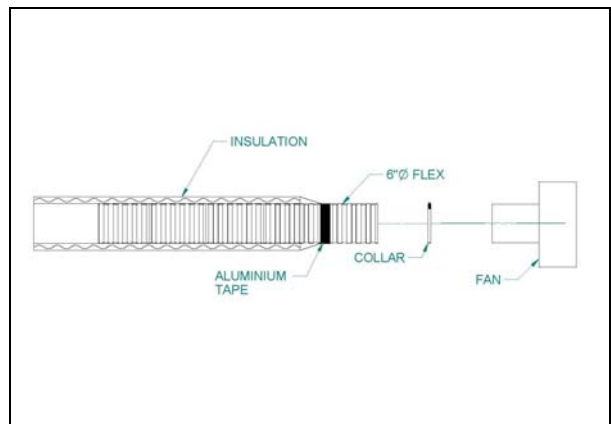

Figure 25
- C) Attach the flexible pipe to the fan's air inlet using the collars provided (figure 25);